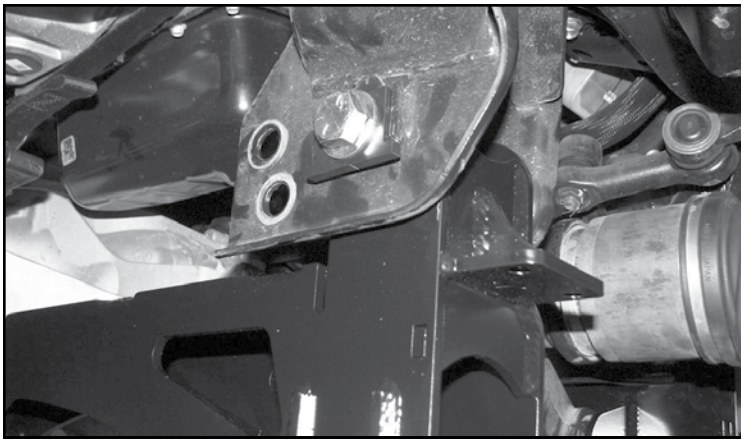
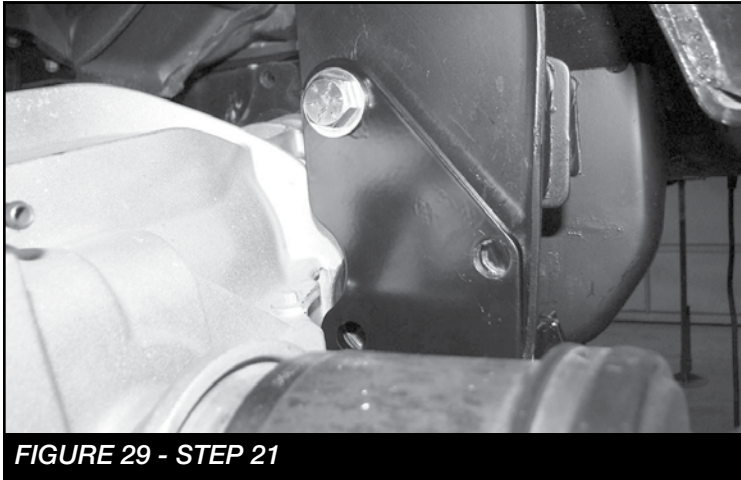

FIGURE 28 - STEP 21
FIGURE 29 - STEP 21
21. **PASSENGER SIDE:** Locate FT60072 (Rear Crossmember). Using the supplied 5/8" x 5-1/2" bolts, nuts, 3 washers and 2 FT60086 (Cam washer). Install the washers on the 5/8" bolt like shown in **FIGURE 23**. Next, install the crossmember to the factory rear lower control arm pockets. Leave loose at this time. **SEE FIGURE 28**. **DRIVER SIDE:** Locate a 9/16" X 1-3/4" bolt, nut and washers. Install the hardware through the new crossmember and factory pocket on the front side upper most hole while also installing FT60085 (Small Spacer) between the Fabtech crossmember and factory pocket. Leave loose. **SEE FIGURE 29**